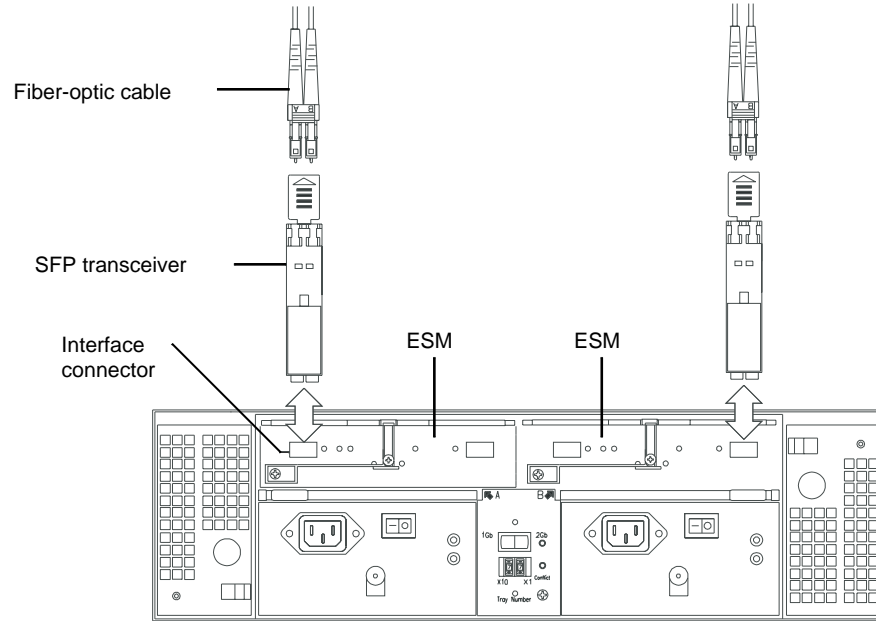

Figure 4-7 Removing SFPs from the Environmental Status Module
5. Disconnect the Fibre Channel cables from the SFP transceivers in the failed module, and then remove the SFP transceivers (see Figure 4-7). Label each cable to ensure that all cables are properly reconnected to the new module.
11. Check the power and fault indicators on the new module (see Figure 4-7).